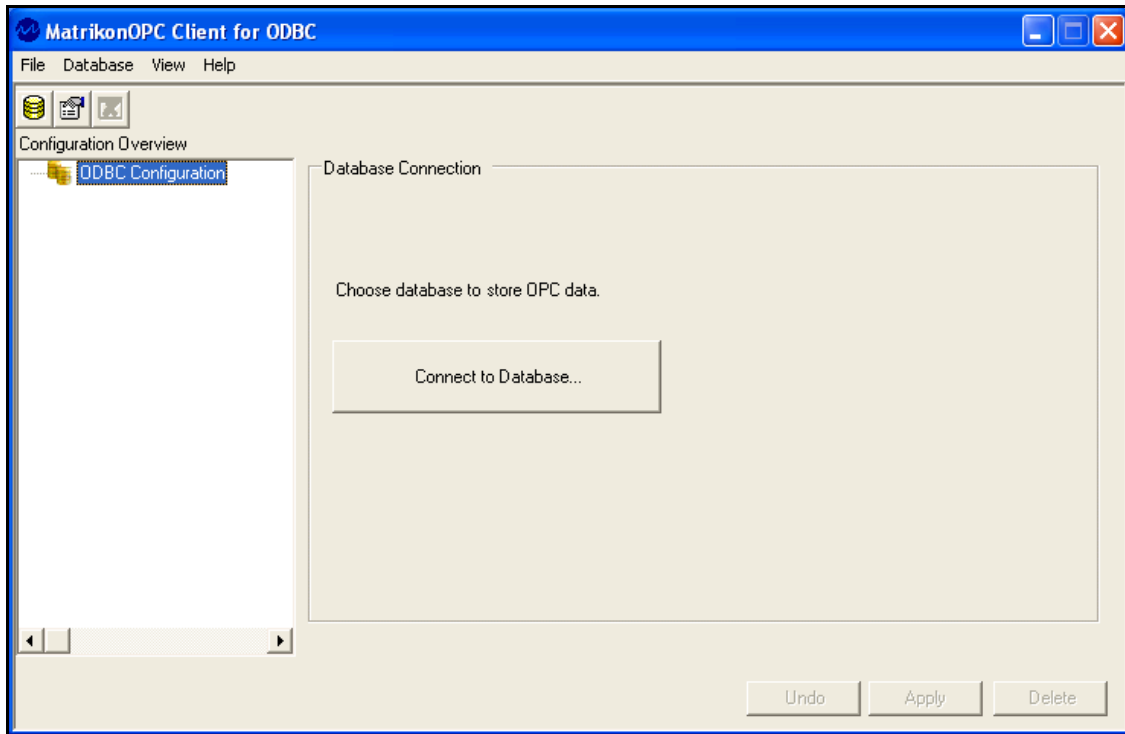

Figure 13 - Configuration Window
The Configuration window (Figure 13) appears.
1. Select the **ODBC Configuration** node in the **Configuration Overview** pane on the left, from the main **Configuration** window (Figure 13), choose one of these available options: